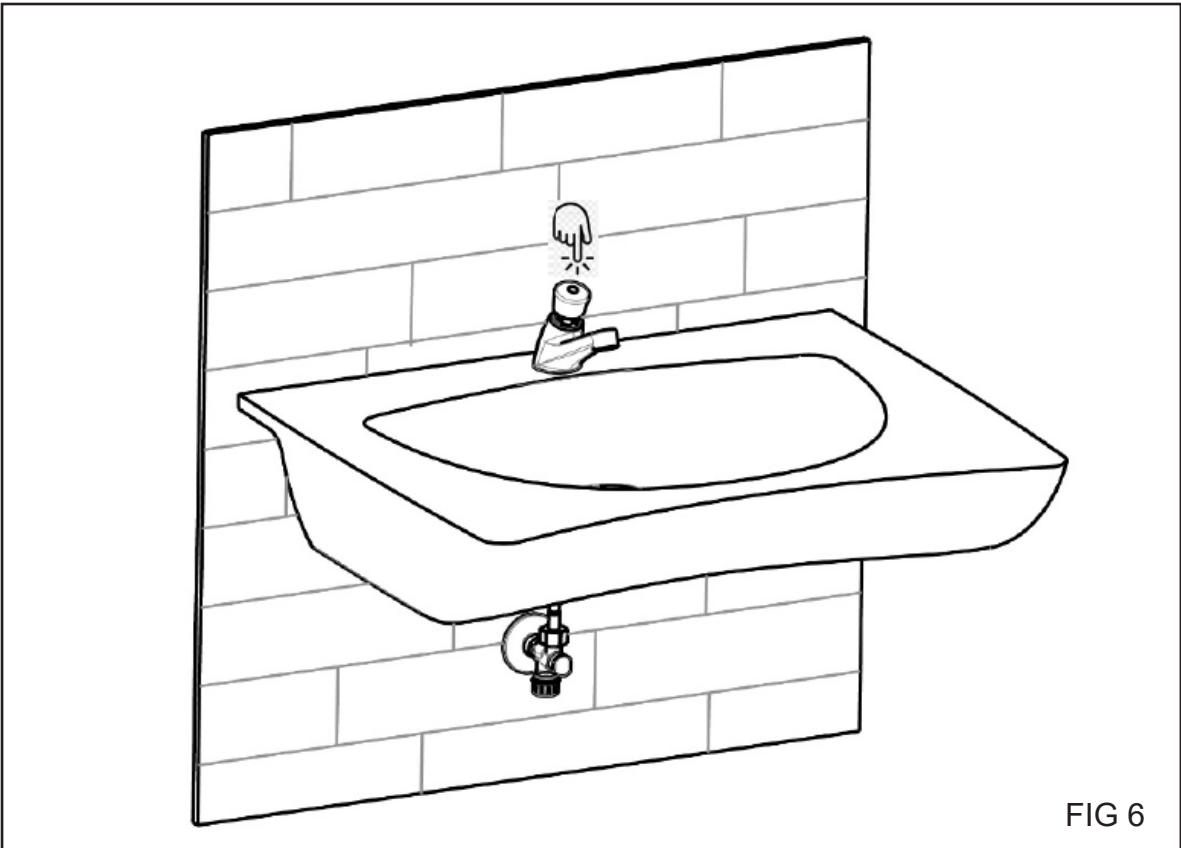

FIG 6
8. Turn on water supply and check all connections. Activate the tap several times to stabilise flow time - Fig 6.